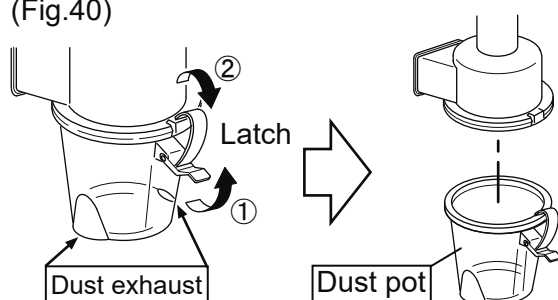

Fig.40
- Take off the latch of dust pot and remove it. (Fig.40)